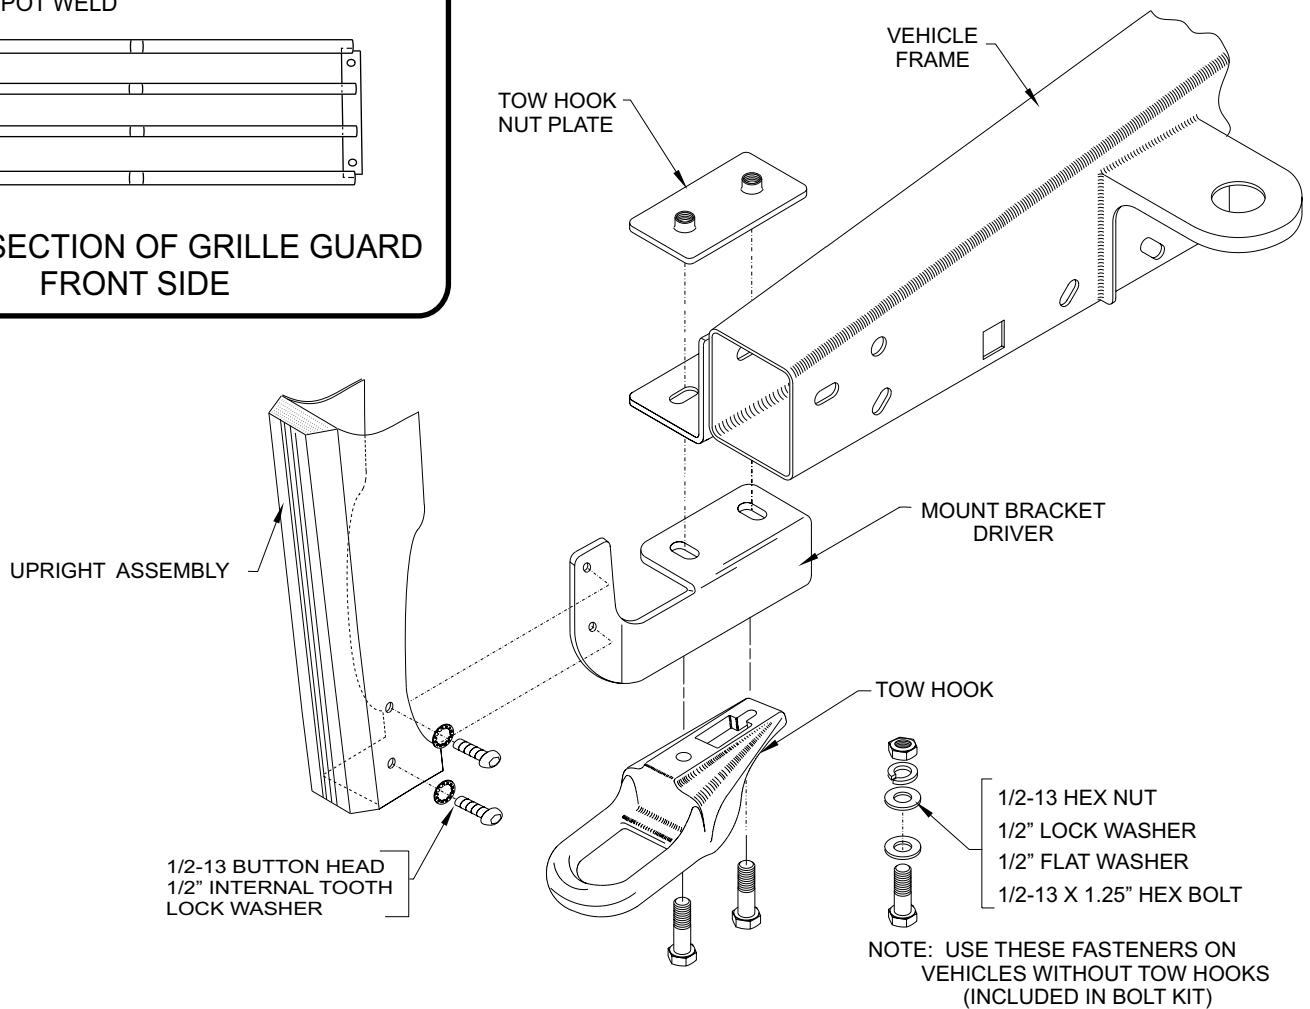

FIGURE 2
STEP 3. From underside of vehicle and behind bumper remove (4) 8mm bolts and (3) 6mm bolts that secure the plastic shroud.
NOTE: For vehicles without tow hooks, attach mount brackets to frame using (2) 1/2-13 x 1.25" Hex Head Bolts, (4) 1/2" Flat Washers, (2) 1/2" Lock Washers and (2) 1/2" Hex Nuts. Install bolts through existing holes in L Bracket on the side of the frame. See Figure 2. Repeat for opposite side.